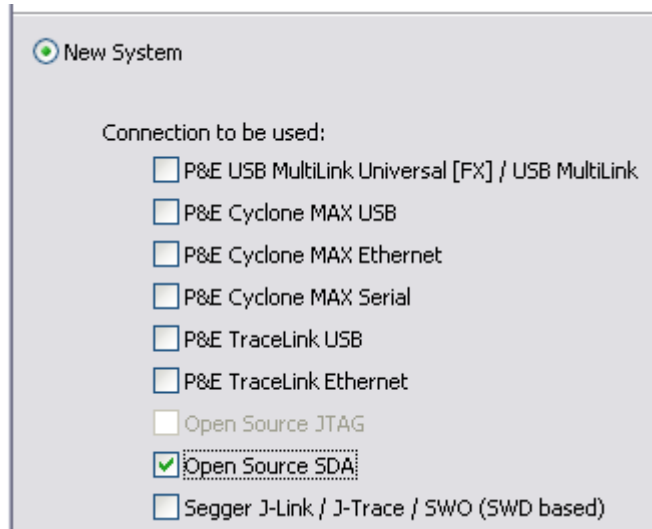

Figure 12. Selecting connection
10. The following step lets you choose the connection to be used. The Freedom – KL25Z board uses the Open source SDA connection and this must be selected as Figure 12 explains. Click “Next >” to go on.